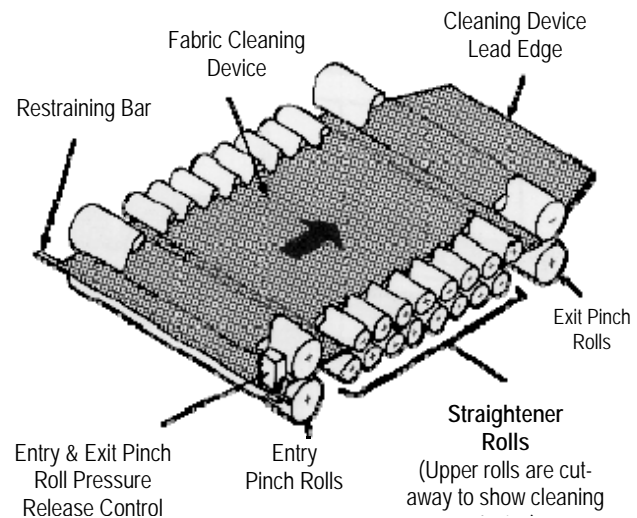

Fig. 28
1. Fabric cleaning device (See Figure 28) is used for: